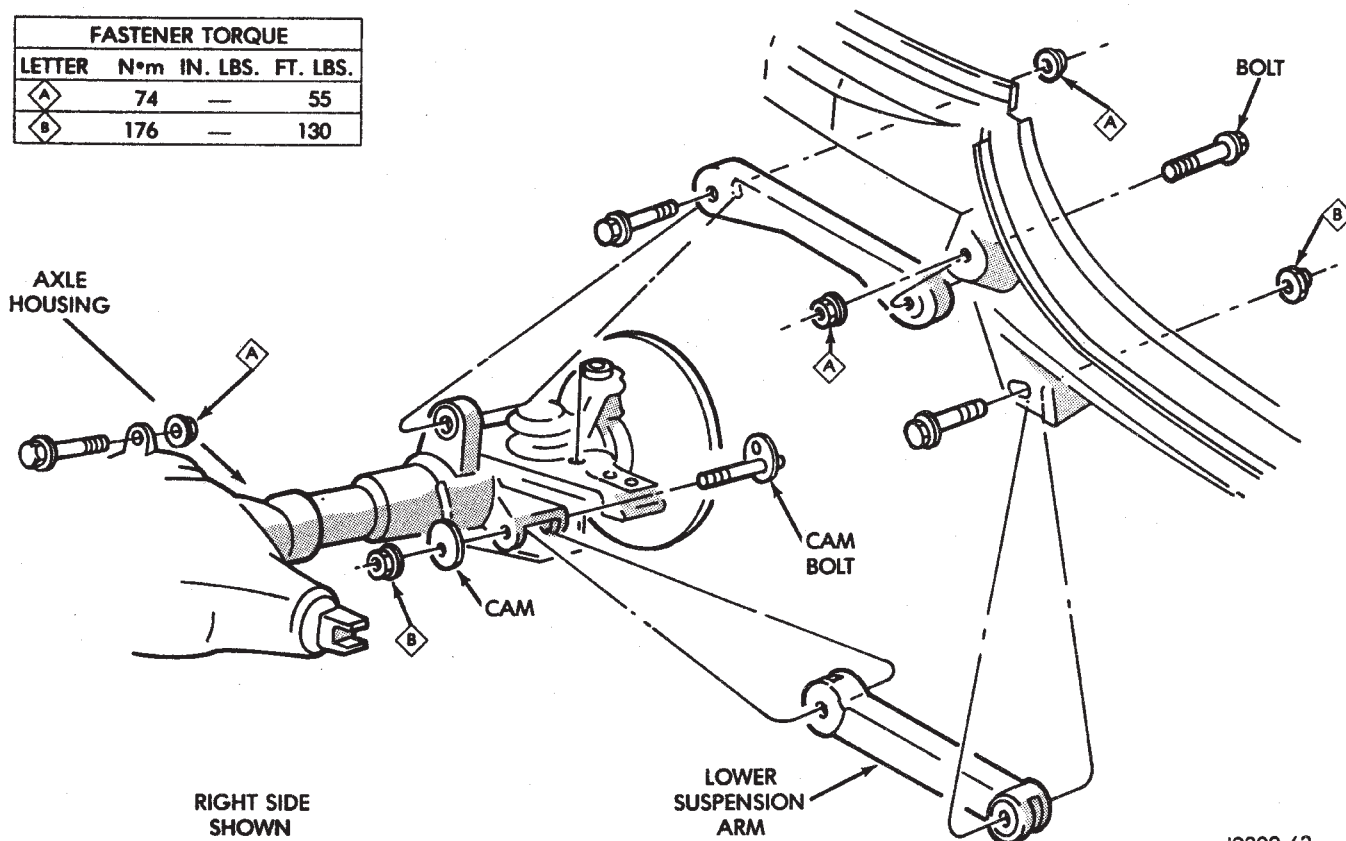

Fig. 3 Upper and Lower Suspension Arms
(1) Raise and support the vehicle.
(2) Remove the upper suspension arm nut and bolt at the axle bracket (Fig. 3).
(3) Remove the nut and bolt (Fig. 3) at the frame rail and remove the upper suspension arm.
(1) Position the upper suspension arm at the axle and frame rail (Fig. 3).
(2) Install the bolts and finger tighten the nuts (Fig. 3).
(3) Remove the supports and lower the vehicle.
(4) Tighten the nut at the axle and frame bracket to 75 N•m (55 ft. lbs.) torque.